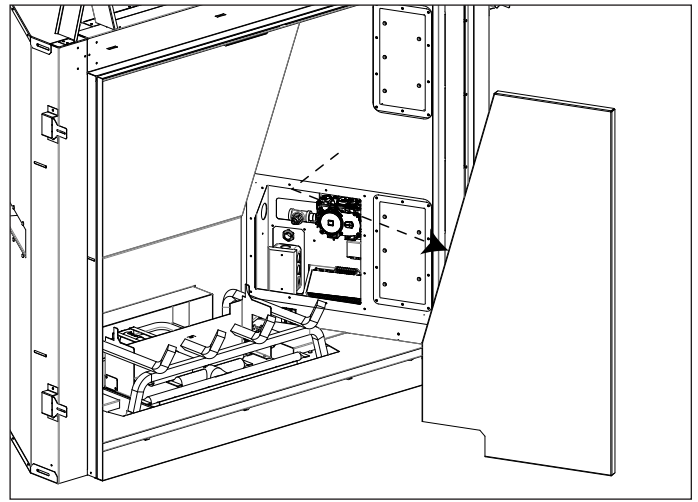

Figure 19: Right Liner Removal
6. The components can be accessed behind the right liner panel. Loosen the two (2) bolts on the right liner retainer using a 5/16" socket until it can be removed. See Figure 19.